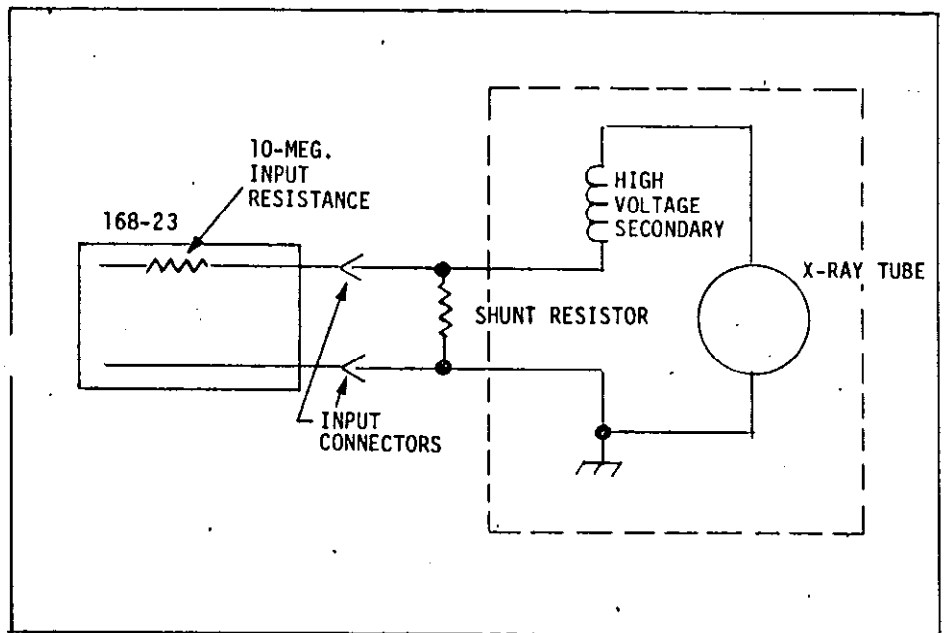

FIGURE 2. Integrating Voltage Mode
Figure 2 shows an alternate measurement technique for measuring mAs. A shunt resistor is securely installed across the ma or mAs test points and the 168-23 is used in the integrating voltage mode. Integrating voltage mode is selected by placing the mAs-NORM switch in the mAs position and depressing (DC).